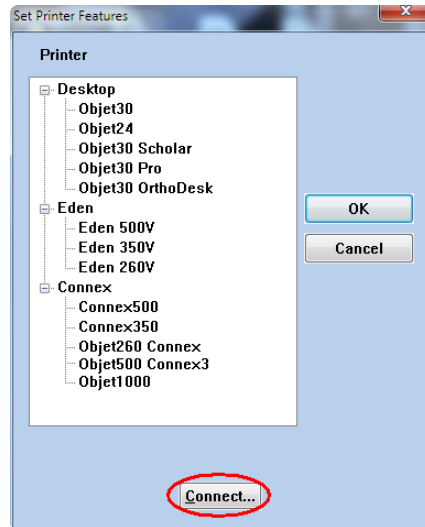

Figure 5-84: Connecting to a printer (A)
2. In the *Set Printer* dialog box, click **Connect** (see figure 5-84).